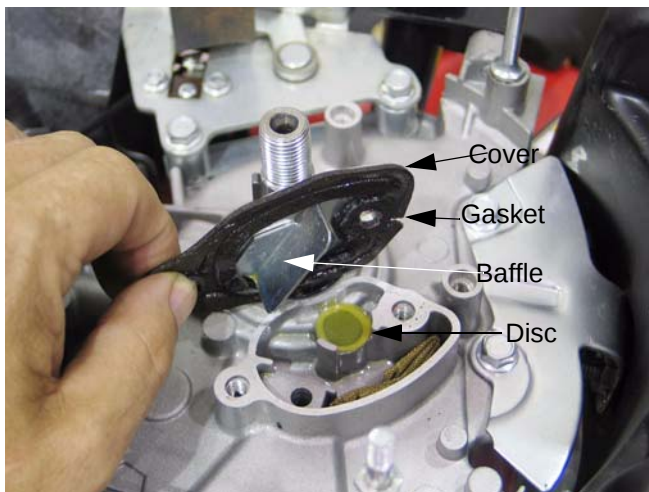

Figure 11.8
- 11.8. The cover and gasket can be separated from the chamber. See Figure 11.8.